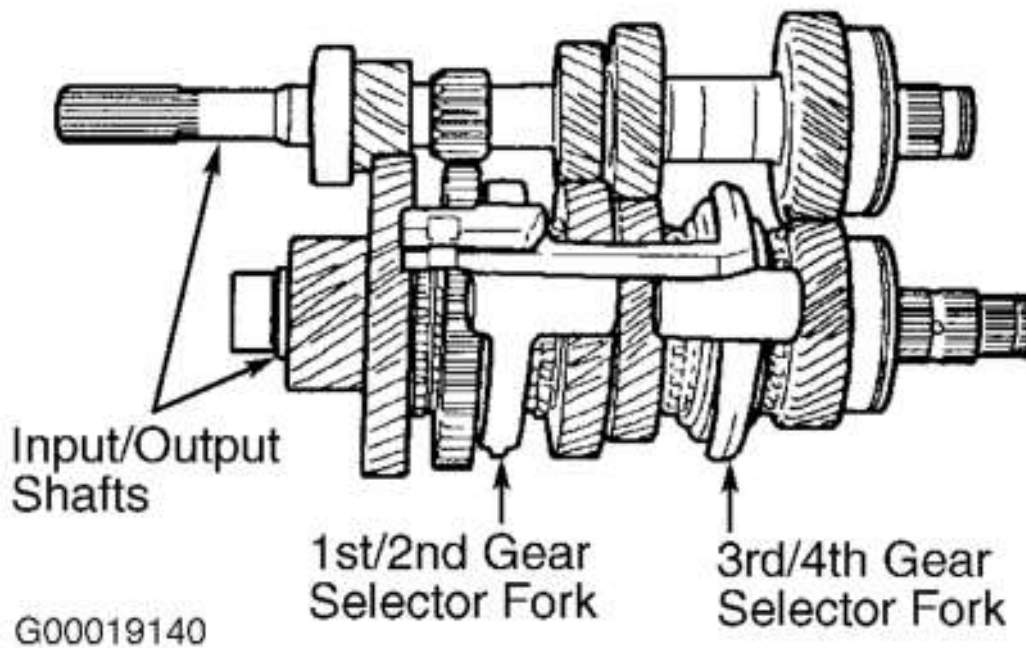
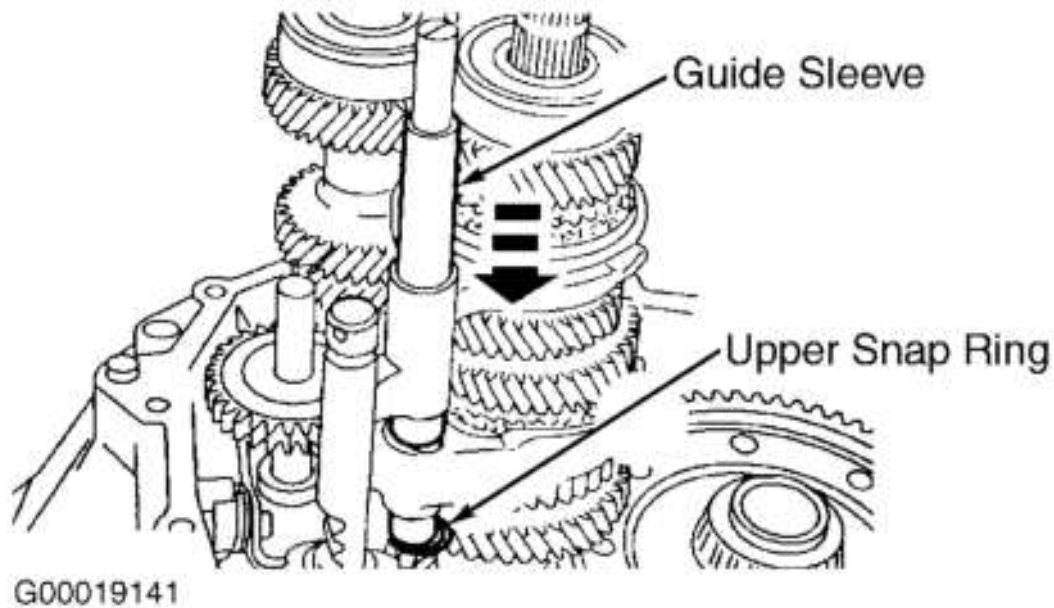

Fig. 24: Preparing Input & Output Shafts For Installation
Fig. 25: Installing Selector Shaft Guide Sleeve
3. Prepare input and output shafts for installation as shown. See **Fig. 24** . Engage input and output shafts. Position gear selector forks as shown. Install rubber belt around selector shaft to aid in assembly. Insert input shaft about 2.0" (50.8 mm) into case and turn shaft slightly to the side. Insert output shaft until level with input shaft and engage gears again. Position input and output shafts in place and install selector shaft guide sleeve. Push guide sleeve down and install snap ring. Pull guide sleeve upward and install snap ring. See **Fig. 25** .